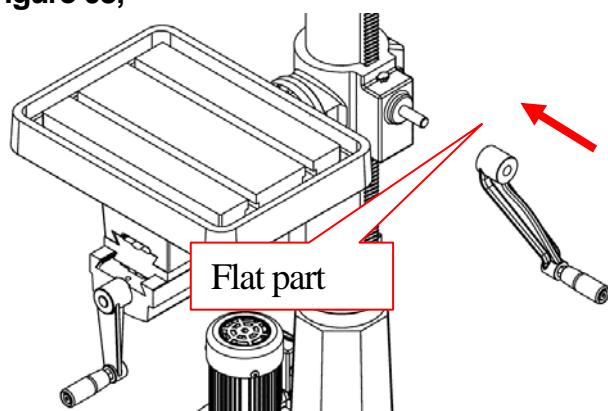

Figure 03
2.Install the crank lever over the pinion shaft, and tighten the setscrew in the crank handle against the flat part of the pinion shaft. **Figure 03**,